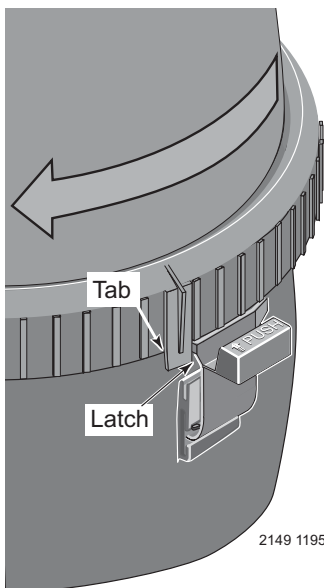

Figure 3 – Rotate Posi-Lok™ Ring until tab locks behind the safety latch.
1. Securely lock Posi-Lok™ ring in place by rotating ring CLOCKWISE until it “clicks” past the safety latch (see Figure 3). Stop turning as soon as the ring clicks past the latch. The ring may feel slightly loose, but it will tighten up when pump is on and filter is under pressure.
- D. Rotate the Posi-Lok™ clockwise until it locks behind the safety latch (see Figure 3).